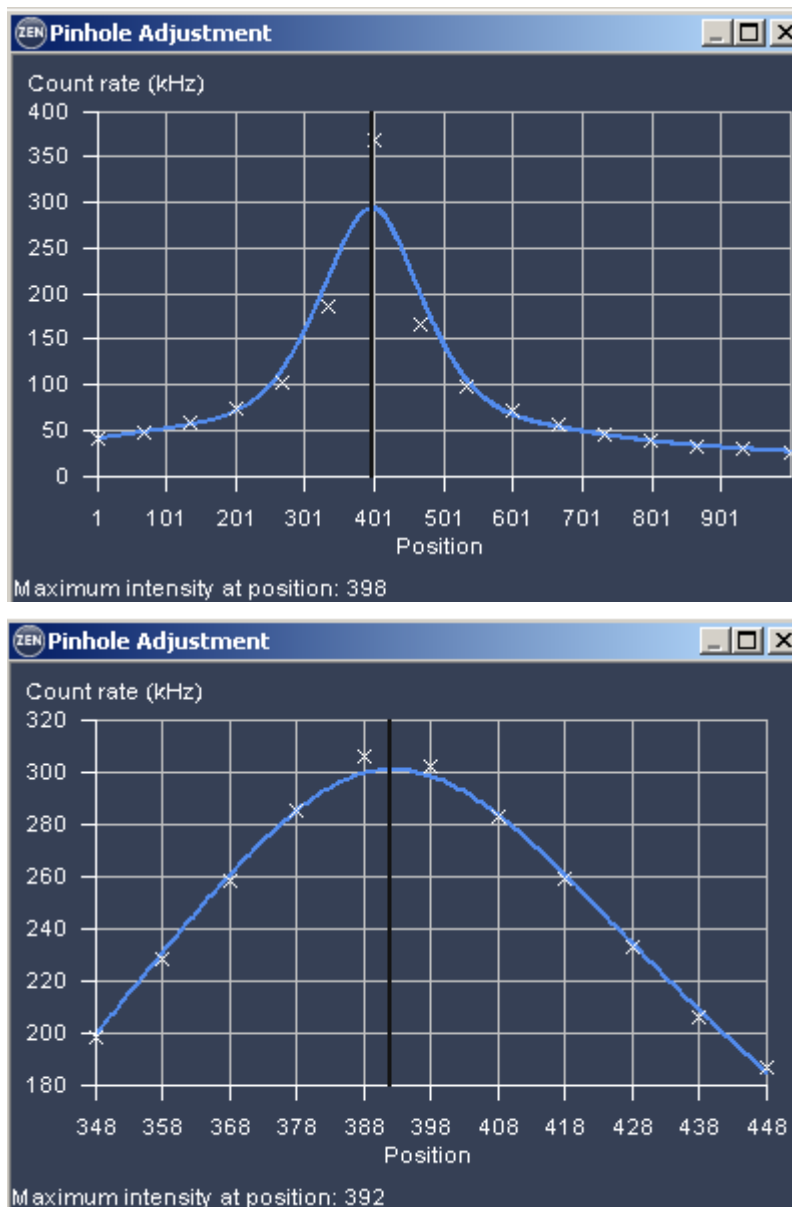

Fig. 37 Automatic Pinhole Adjustment in x coarse (left) and x fine (right)
- Click on the **X** and on **Y** auto adjust buttons to perform a coarse / fine alignment of the pinhole in x and y, respectively. In either case, the **Pinhole Adjustment** window will appear (Fig. 37). In the Count Rate/Position diagram, the crosses correspond to the measured intensity (count rate). The line corresponds to the intensity curve fitted to the data points to find the optimum pinhole position. The pinhole will be automatically positioned to the maximum. If a maximum will not be found in the fine alignment, the system will give a warning message. In this case, a coarse alignment must be performed before the fine adjustment.